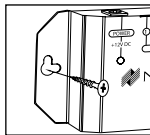

Figure 3
- 2) Wall-mount (affixed to the back of the equipment cabinet or a nearby wall (Figure 3)*